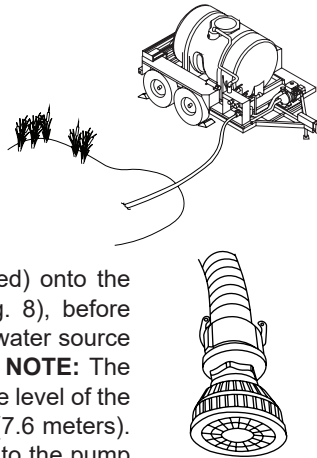

Fig. 8
5. Place a filter / strainer (not included) onto the end of the rigid suction hose (Fig. 8), before placing the hose into the standing water source (such as a lake, stream, or pond). **NOTE:** The total lift from the filter / strainer to the level of the side port must not exceed 25 feet (7.6 meters). Connect the other end of the hose to the pump inlet valve (Fig. 1).